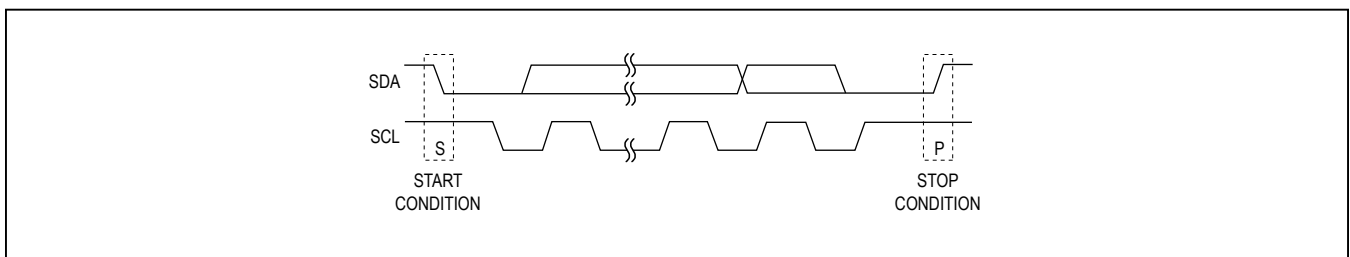

Figure 3. Start and Stop Conditions
Both SCL and SDA remain high when the interface is not busy. A master signals the beginning of a transmission with a START (S) condition by transitioning SDA from high to low while SCL is high (Figure 3). When the master has finished communicating with the slave, it issues a STOP (P) condition by transitioning SDA from low to high while SCL is high. The bus is then free for another transmission.